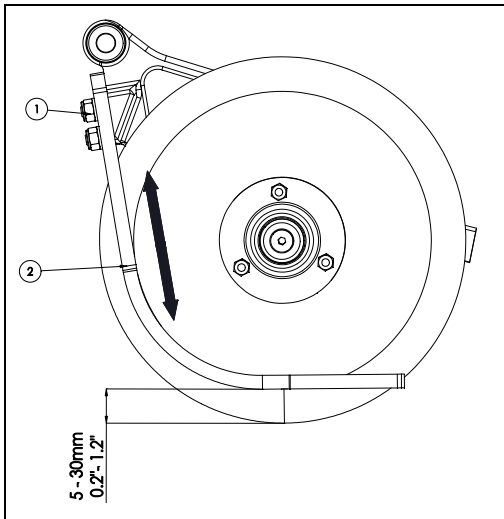

Fig.8
The working depth can be adjusted by adjusting the sliding foot of the seed blades. Loosen the bolts (1). Now move the sliding feet (2) to the desired depth, from 5 to 30 mm working depth. (Fig. 8)